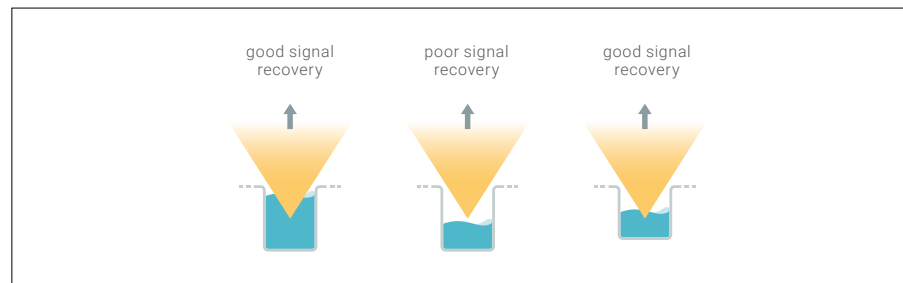

Figure 17 Plate reader optics adjustment, available on most instruments, is mandatory for high performance measurement.
2. The microplate reader excitation beam must be focused into the well accurately (Figure 17, case A). In case B, where the same plate format is being used with a smaller volume, unfocused excitation will lead to inferior collection of emissions. The use of a plate designed for small assay volumes, such as in case C, will restore the measurement efficacy.